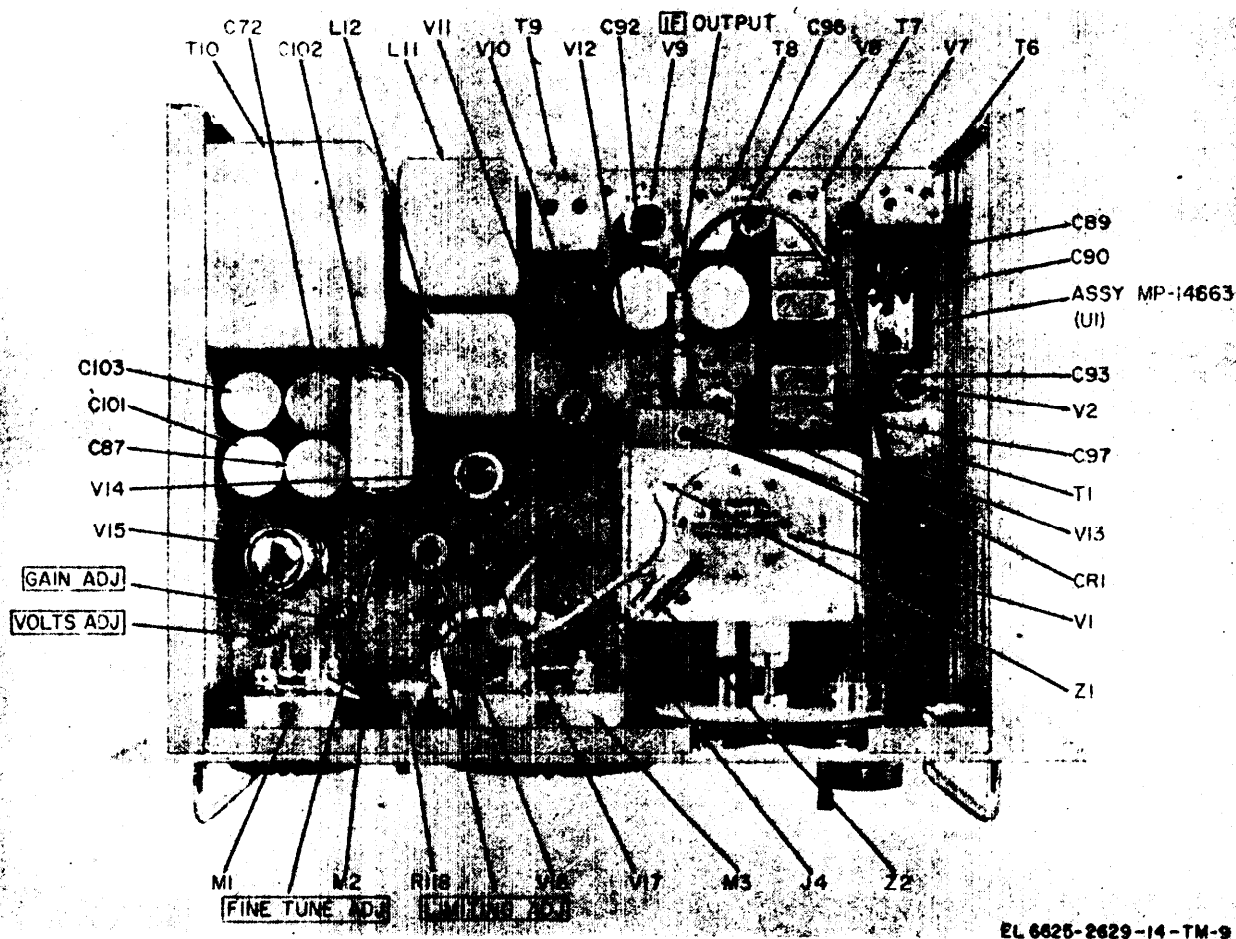

Figure 7-1. Modulation meter chassis, parts location, top view.
Parts locations are shown on figures 7-1, 7-2, and 7-3. A schematic diagram for the overall modulation meter is contained on figure FO-2. The overall wiring diagram is figure FO-3.
(1) Disconnect the rf cable at the if input mixer connection (fig. 7-1).
(2) Connect the am generator output to this cable. (Be sure that the modulation selector switch is in the OFF position. )
(3) Tune the am generator to 12 MHz and increase the output until the LIMITING meter indicates in the black area.
(4) Check the indication on the CARRIER SHIFT meter. It should read nearly zero with TUNE-FINE TUNE switch in FINE TUNE position. If it does not read zero, tune the am generator until it does.
(5) If LIMITING and CARRIER SHIFT meter readings are indicated, the oscillator-probable is faulty.
(6) If the LIMITING meter reading cannot be indicated, the trouble is probably in the if amplifiers. If the if amplifiers are suspected of being faulty, use the test method given in c below.